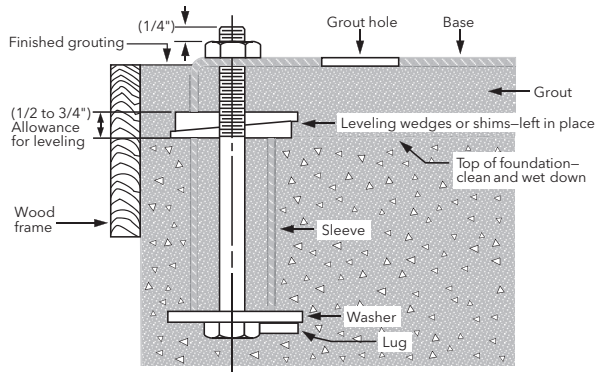

Figure 1
- It is recommended that the baseplate be grouted to a foundation with a solid footing, per Figure 1.
- As depicted in Figure 1, place the baseplate on wedges, locating two wedges at each foundation bolt location. A gap of $\frac{3}{4}$ " to $1\frac{1}{2}$ " (19 mm to 64 mm) is recommended between the baseplate and the foundation for grouting. Adjust the wedges as necessary to level the baseplate.